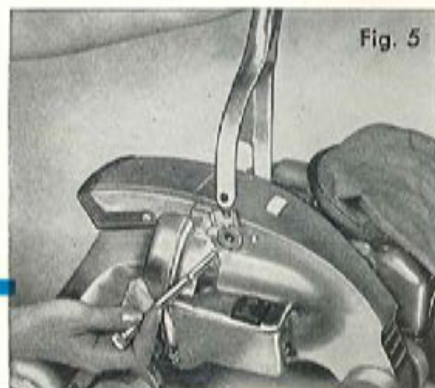

Fig. 5
- STEP 2:** Insert the fork of the Long Handle into the slide at top of Motor Unit (see figure 5).